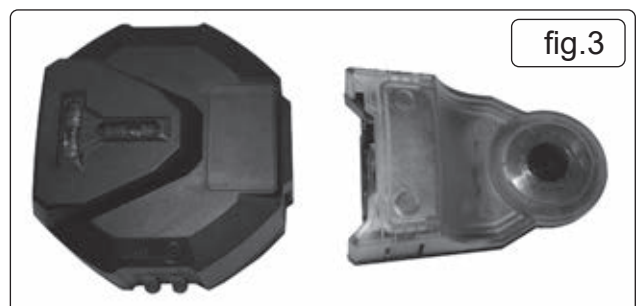

fig.3
- 4.2.1. The device can be slid apart leaving you with two pieces. The dust collection pod and the suction device (fig.3).